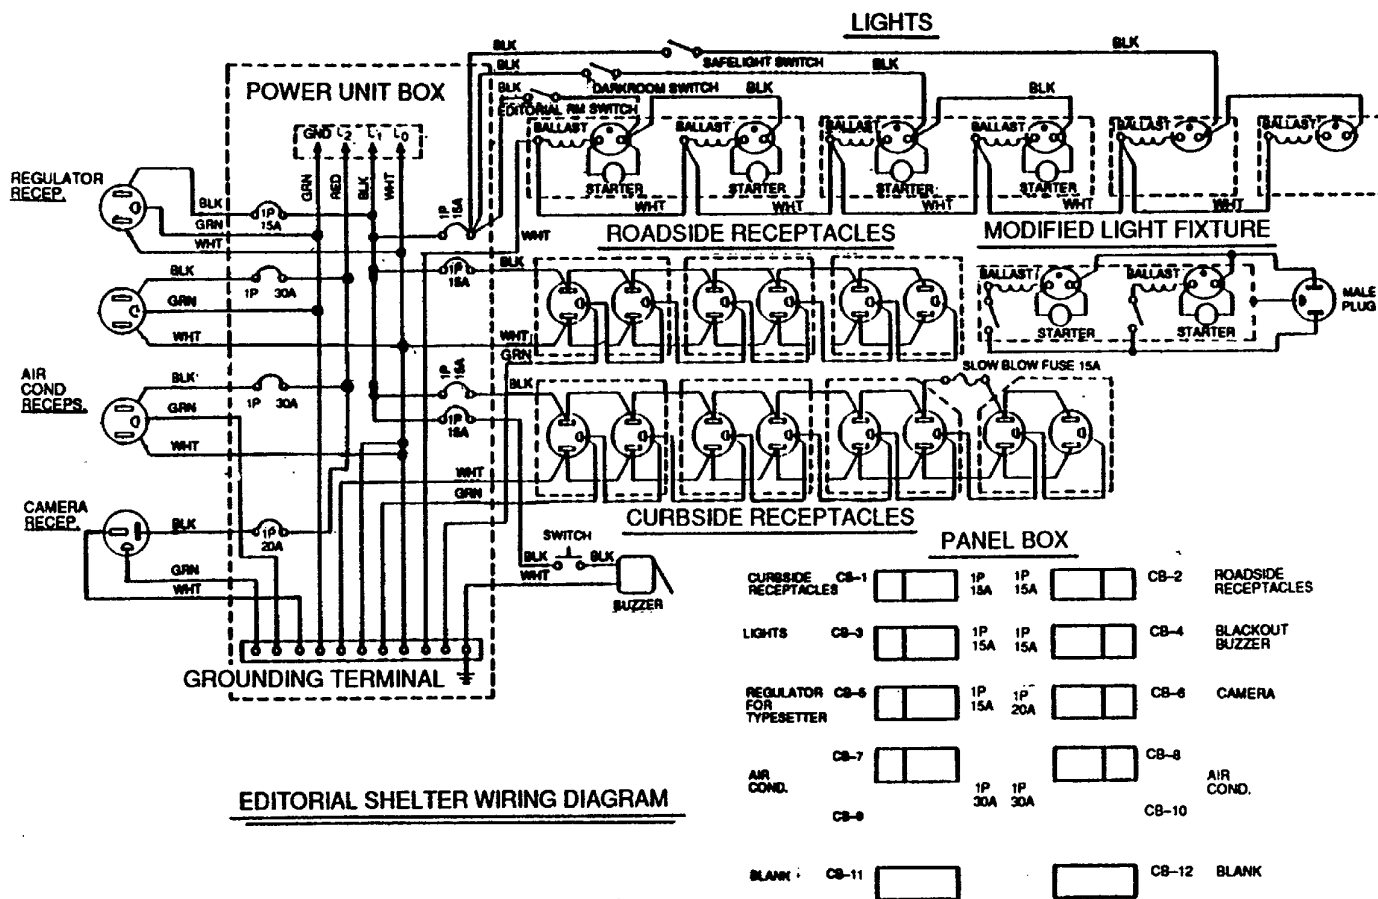

Figure 5-11. Electrical Wiring Diagram
- (1) Inspect electrical wires inside rigid conduit for burnt, cracked or missing insulation.
- (2) Inspect electrical wires for frayed, broken, corroded or exposed conductors.
- (3) Inspect electrical wires for loose or improper connection.
- (4) Inspect electrical wires for security of mounting (safely held inside conduit with wire clips).
**b. Repair.** Electrical wiring repair consists of replacing components. (See Figure 5-11).
- (1) Remove conduit cover clips, cover and wire clips. Refer to paragraph 5-13.
- (2) Tag electrical wires, disconnect from terminals and remove from conduit, as necessary.
- (3) Install electrical wires (cut to length) in conduit, connect to terminals and remove tags. (See Figure 5-11. Electrical Wiring Diagram for Proper Connections.)
- (4) Install conduit wire clips, channel cover and cover clips. Refer to paragraph 5-13.